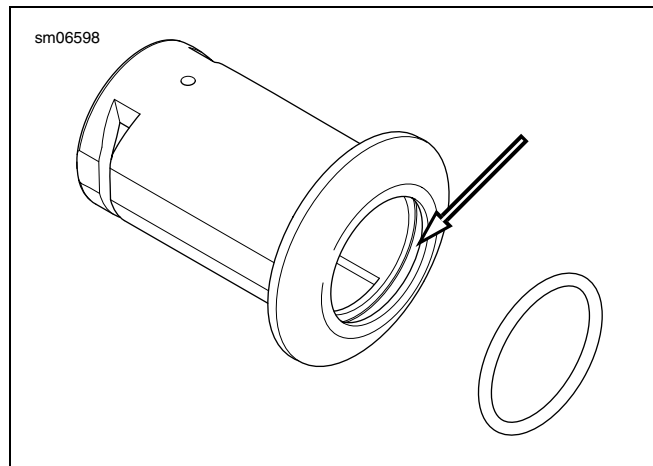

Figure 5. Install O-Ring
- See Figure 5. Install the O-ring in the groove in the **new** bezel and apply a light film of H-D Contact Lubricant (Part No. 99861-02). Install original lock assembly in **new** bezel.